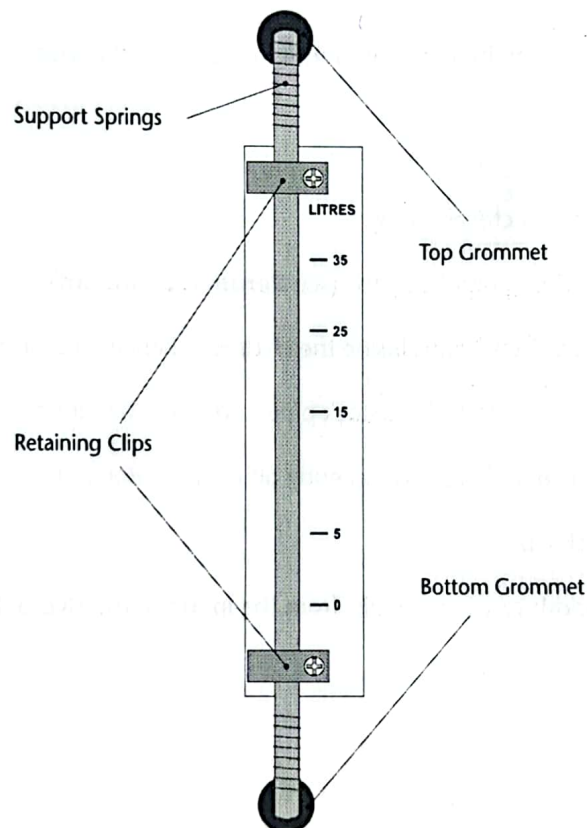

Figure 8 Water Volume Indicator
2. Referring to Figure 8, slacken the two retaining clips on the water volume indicator. Remove the plastic pipe from the top grommet and detach it from the groove in the indicator.